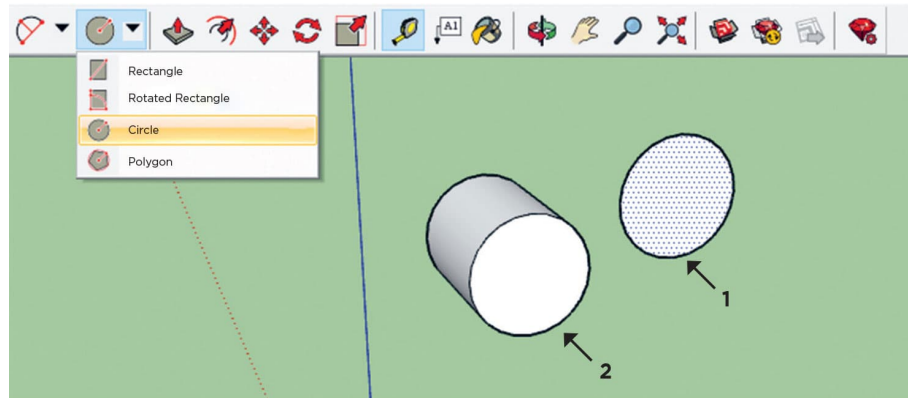

FIG. 1: Create a cylinder.
1. Draw a cylinder in SketchUp with a diameter of about 2 inches, similar to Lab 23 (shown here). Arrow 1 in fig. 1 shows the initial circle drawn using the **Circle** tool, and arrow 2 shows the circle extruded into a cylinder using the **Push/Pull** tool.